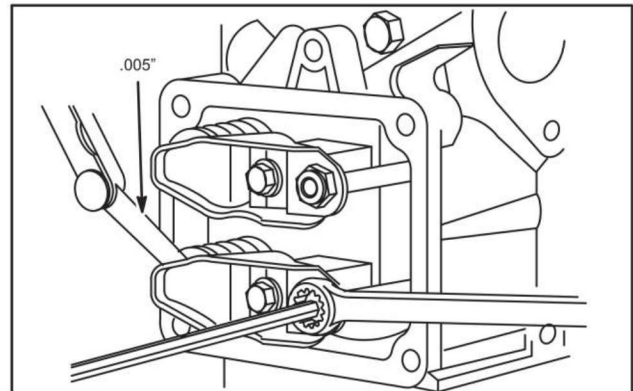

Fig. 17 – Adjust Valves
- a. Adjust valves and check, Fig. 17.